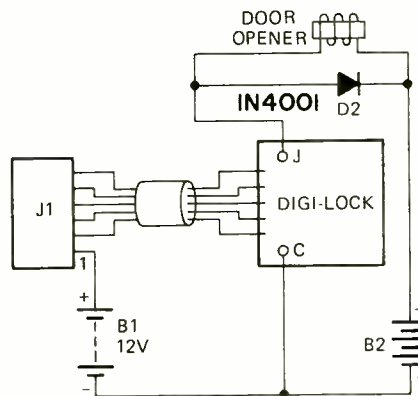

FIG. 7—THE DIGI-LOCK drives door opener. A 1N4003 diode is preferred for D2.
- D2—1A, 1N4003 (see Fig. 7)
When used as a door lock, the output transistor, Q2, is used to drive a door opener to activate the latch. The door opener can be operated from the same battery that operates the lock or from a separate source as shown in Fig. 7. The diode D2 protects Q2 from